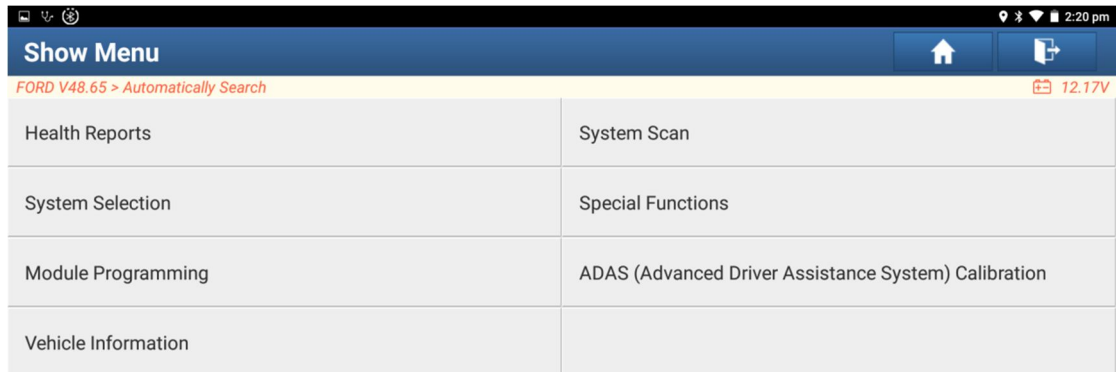

Figure 4
3. Select [Special Features] (or select ADAS (Advanced Driver Assistance System) Calibration) (Figure 4).